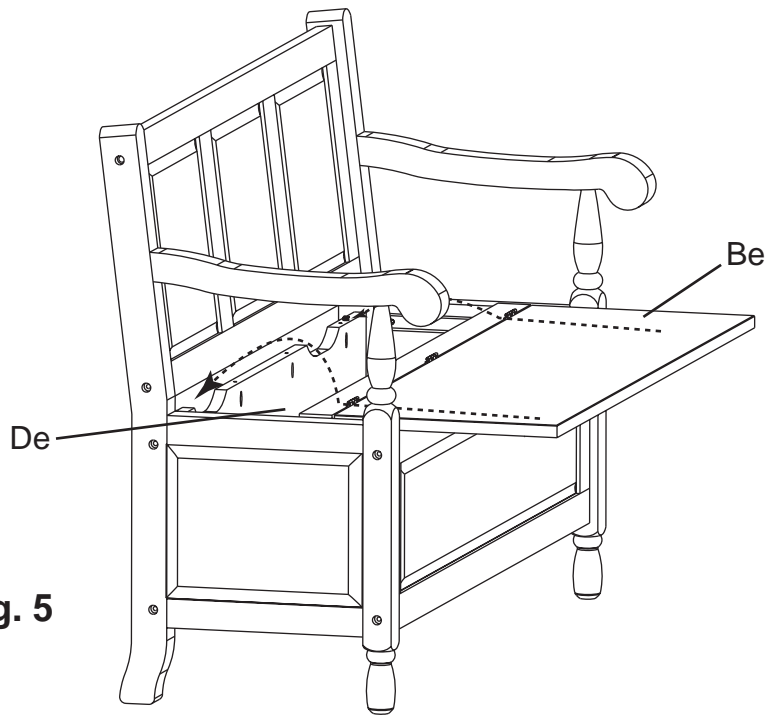

Fig. 5
5. Spread a thin layer of glue in the two dowel holes on the bottom of the Seat Assembly (Be). Place the Seat Assembly over the dowels on the Back Panel (De) and quickly wipe away excess glue with a damp rag. See Figure 5.